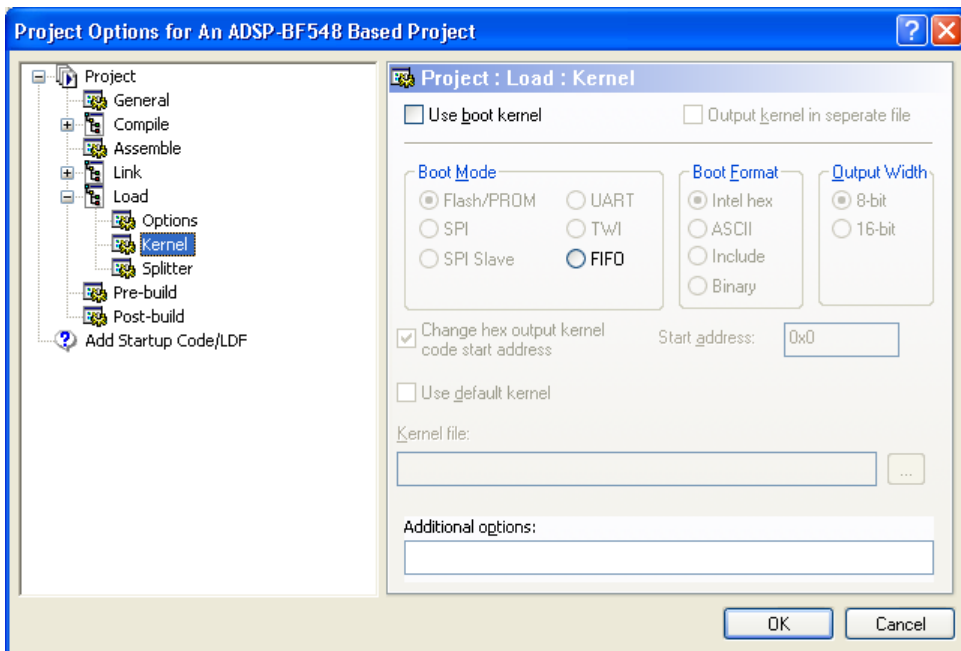

Figure 2-4. Project: Load: Kernel Page for ADSP-BF51x/BF52x/BF548/BF548M Processors
Unless you develop a second-stage loader and use it, most of the options on the **Kernel** page are grayed out. Figure 2-4 shows a sample **Kernel** page with options set for an ADSP-BF548 Blackfin processor.
2. Select **Kernel** (under **Load**) to set up the second-stage loader options (Figure 2-4).